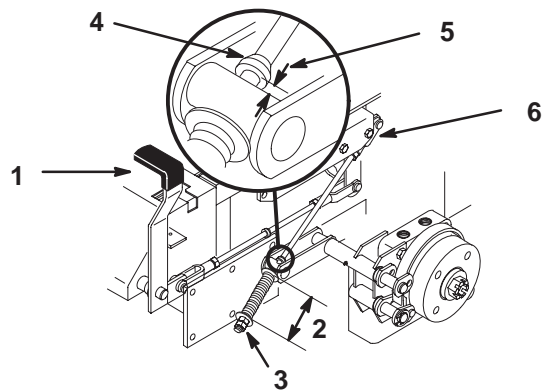

Figure 54
2. Measure the length of the spring. Measurement should be 2.75 in. (70 mm) between washers (Fig. 54).
3. If adjustment is necessary, loosen the jam nut below the spring and tighten the nut directly below the yoke (Fig. 54). Turn the nut until the correct measurement is obtained. Tighten the two nuts together and repeat on opposite side of unit.
6. Measure the distance between the trunnion roller and the collar on brake rod. Measurement should be 3/16–1/4 in. (5–7 mm) (Fig. 54).
7. If adjustment is necessary, loosen the jam nut directly below the yoke. Turn the bottom rod until the correct measurement is obtained (Fig. 54). Tighten jam nut at yoke.